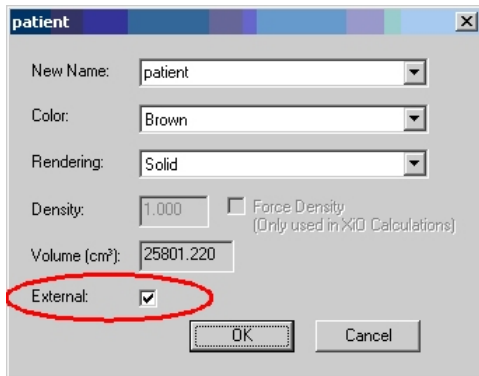

Figure 1 - Monaco structure properties window: the user has to put a checkmark on "External" to tell Monaco what structure is the external contour
- name the external contour of the phantom the same name used for the external contour of a patient. The phantom is not available if the external contour names of the phantom and the patient are not the same. The user may prefer to duplicate several times the external contour of the phantom (using different possible names) and decide every time is needed which one is to be considered the external contour, editing and saving the modified phantom (Figure 1):